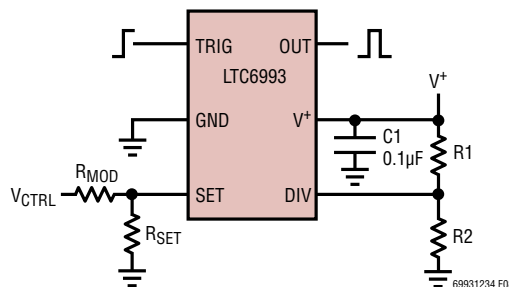
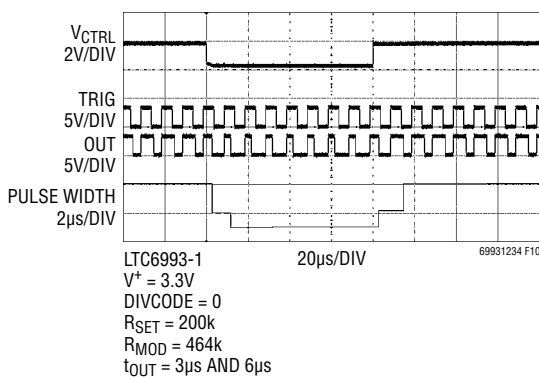

Figure 8. Voltage-Controlled Pulse Width
Figure 10. Typical Settling Time
With one additional resistor, the LTC6993 output pulse width can be manipulated by an external voltage. As shown in Figure 8, voltage  $V_{CTRL}$  sources/sinks a current through  $R_{MOD}$  to vary the  $I_{SET}$  current, which in turn modulates the pulse width as described in Equation (3).
Following a 2× or 0.5× step change in ISET, the output pulse width takes approximately six master clock cycles (6 • tMASTER) to settle to within 1% of the final value. An example is shown in Figure 10, using the circuit in Figure 8.